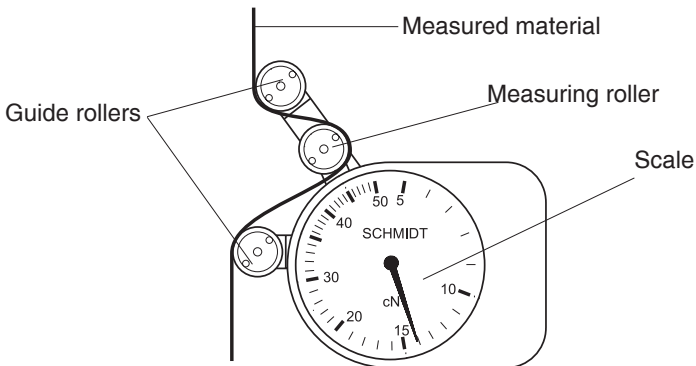

fig. 3.3
- Thread the material to be measured carefully through the measuring roller and guide rollers, as shown in fig. 3.3.